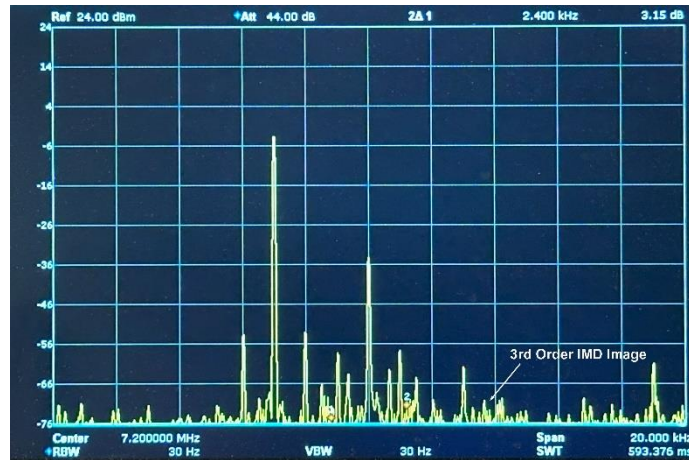

Figure 14 Narrow-band Spectrum After IQ Calibration
- Change the IQ Gain and repeat the process. The S meter minimum vs gain is shown in Figure 13. Figure 14 shows the narrow-band spectrum.